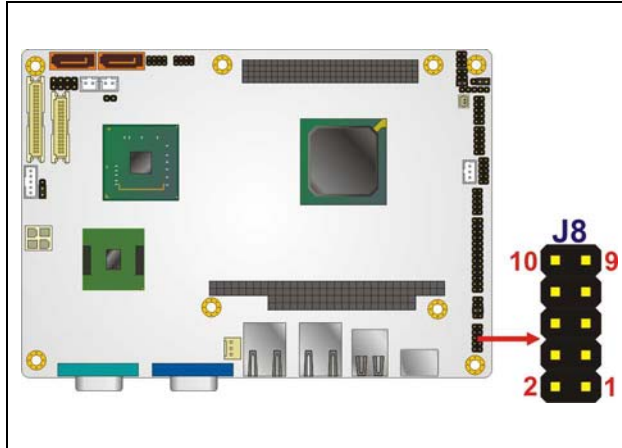

Figure 3-5: Audio Connector Location (9-pin)
- CN Location:** See **Figure 3-5**